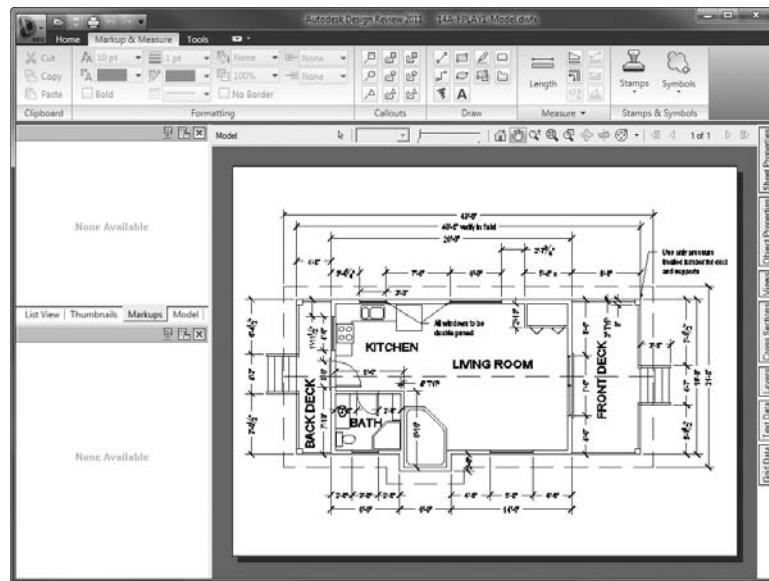

FIGURE 15.28 Viewing the plotted model space drawing using Autodesk Design Review
3. The drawing you plotted displays in the Design Review Canvas (drawing area) shown in Figure 15.28. This is an exact representation of what the drawing would look like had you plotted it to a physical printer or plotter attached to your computer.